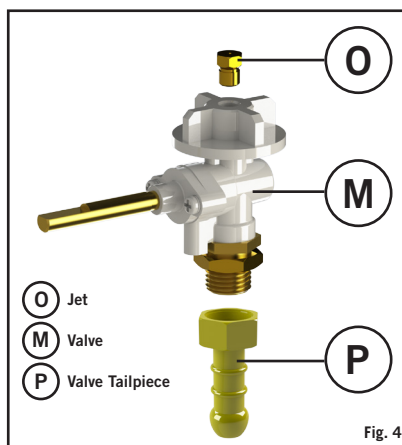

Fig. 4
**Appliance categories:** I 3B/P (30), I 3+ (28-30/37) and I 3B/P (37), (DK, FI, NO, NL, SE, AT, DE, BE, ES, FR, IE, IT, PT, GB, CH)
- On the other end, attach a suitable 30mbar low-pressure (I3B/P (30) : 30mbar Butane/Propane configurations regulator; I3+(28-30/37): 30mbar Butane regulator or 37mbar Propane regulator); I3B/P(37): 37mbar Butane/Propane configurations regulators). Again making sure that the hose is well seated. The type of hose used shall comply with the relevant EN standard and locate requirement. In South Africa the regulator used must comply with SABS 1237.
**Appliance category:** I 3B/P (50) (AT, DE)
- Screw a Hose with the correct threaded fittings on each end, onto the left hand 1/4" BSP thread of the Valve (O) (Fig.4). Attach a suitable 50mbar low-pressure regulator on the other end of the hose. The hose used must comply with DIN 4815 part 2 or equivalent.